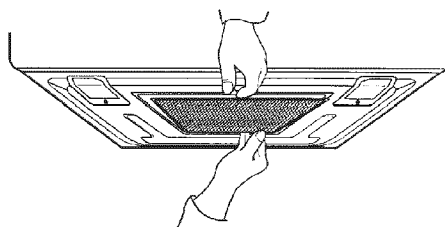

Figure 36
7. Grasp filter screen with one hand holding the ring and the other hand holding the opposite end. Insert the end of the filter screen without ring into the opening and slide towards the side of the microwave oven. Insert ring end of filter screen into the opening and slide entire screen towards the center of the microwave until screen is securely in position. Repeat for other filter screen. See **Figure 36**.